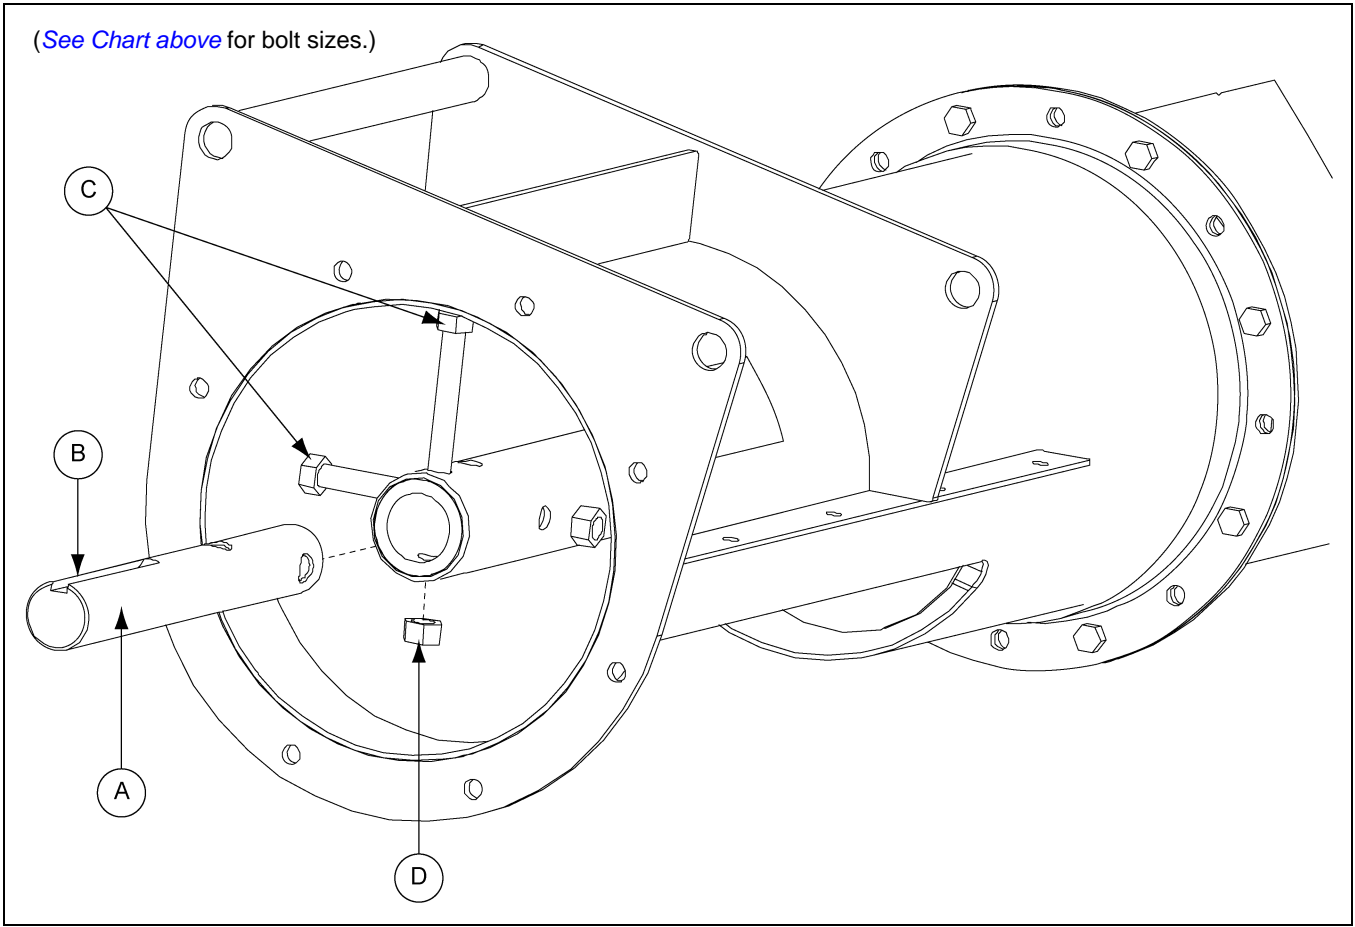

Figure 4A
1. Insert the drive shaft (A) into the opposite end of flight with keyway (B) facing outward. Align the holes in the shaft and secure with grade 8 bolts (C) and stover nuts (D). *(See Chart below and Figure 4A.)*